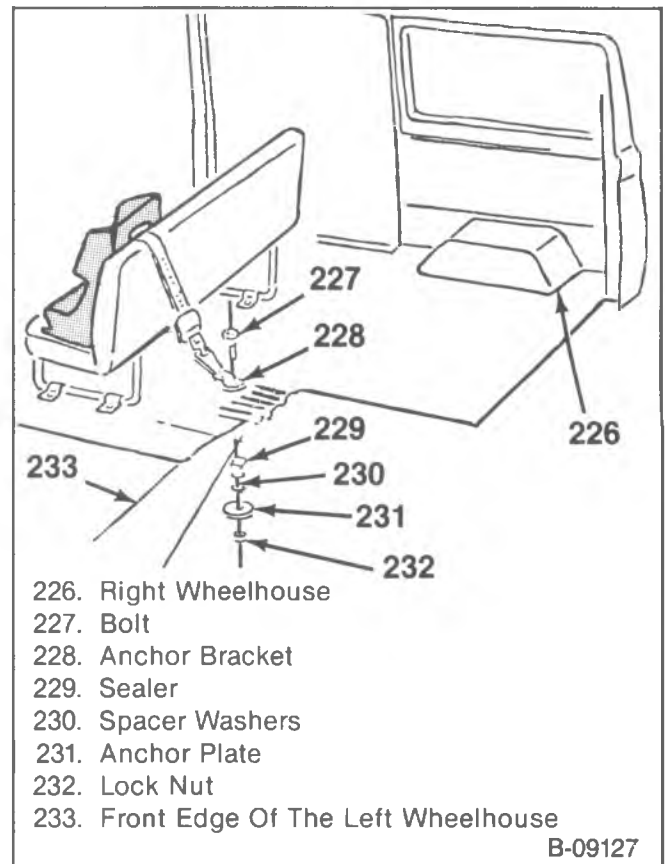

Figure 43—Second Seat Top Strap Components—Left Position
1. Determine the location for the anchor by measuring 76 mm (3-inches) rearward from the front edge of the left wheelhouse. Measure 60 mm ($2\frac{3}{8}$ -inches) inboard from the left wheelhouse. Mark the position on top of the rib where these measurements meet (figure 43).